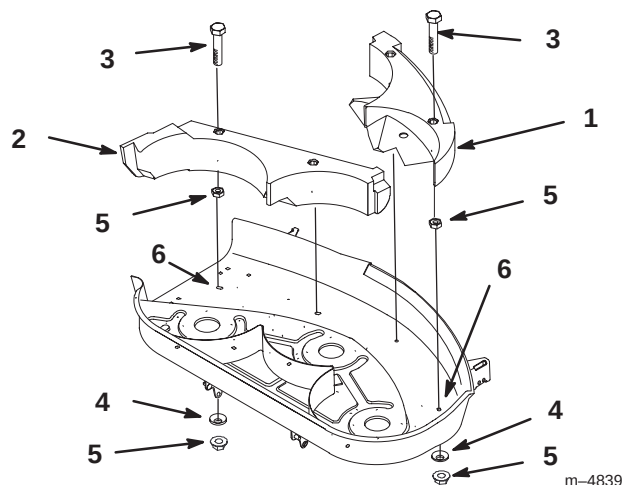

Figure 2
2. Remove the locknuts or knobs, and washers from the left and right side baffles (Fig. 2). Lift the baffles from the deck. Retain all parts for future installation.
3. Install two carriage bolts (3/8 x 3/4 inch) from the underside of the mower, two washers (1/2 inch), and two locknuts (3/8 inch) in the two open slotted holes of the mower shown in Figure 2.